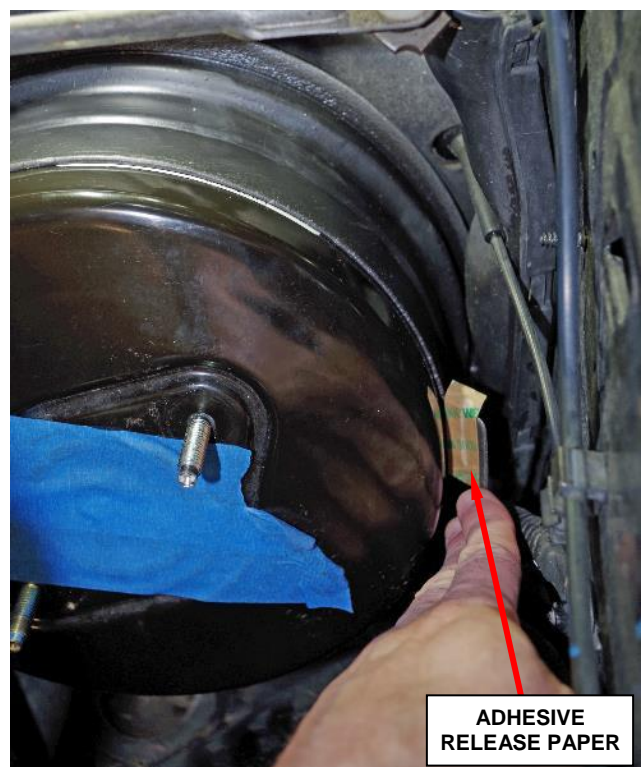

Figure 25 – Adhesive Release Paper
20. Pull the brake booster water shield tabs back slightly and remove the release paper and press the tab against the side of the brake booster (Figure 25).